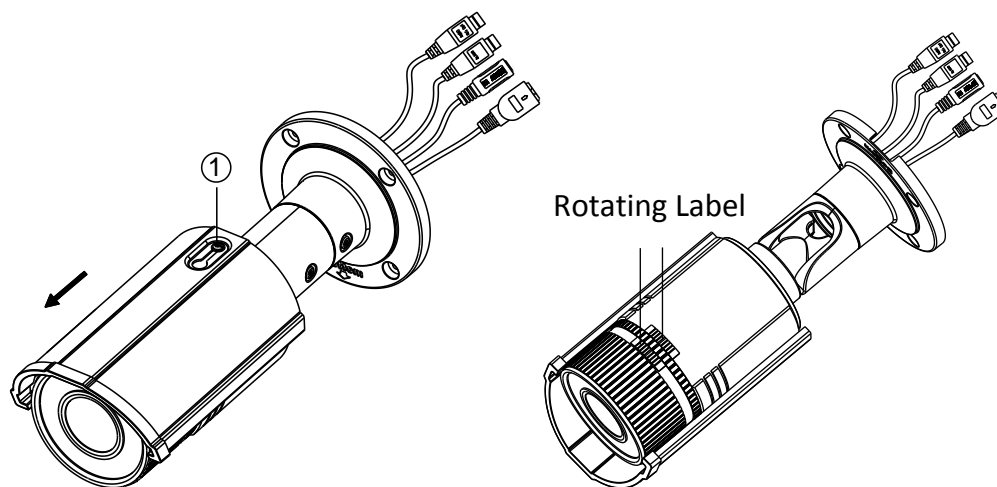

Figure 5-27 Assemble the Camera
6. Slide the sun shield according to the arrow direction as shown in Figure 5-27(left).
For water-proof, please align the rotating label on the front cover with that on the camera when you rotate the front cover clockwise. Refer to Figure 5-27 (right).